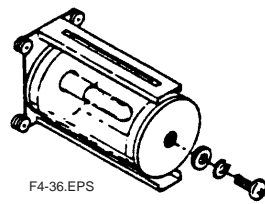

Figure 4.36
9. Insert this block into the cell, tighten the screw all the way, and fit the cell packing closely to the inside of cell. (Figure 4.36)